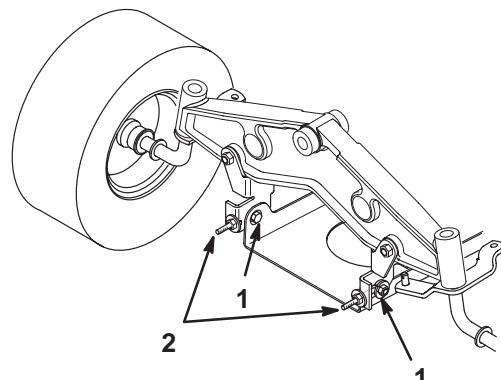

Figure 52
7. To adjust the front-to-rear blade slope, loosen the front pivot plate mounting bolts slightly (Fig. 52).
8. Rotate the locknuts on the eyebolts to change the adjustment (Fig. 52). To raise the front of the mower, tighten the eyebolt locknuts. To lower the front of the mower, loosen the eyebolt locknuts.
9. After adjusting both of the eyebolt locknuts evenly, check the front-to-rear slope again. Continue adjusting the eyebolts until the front blade tip is 0–3/8 in. (0–9 mm) lower than the rear blade tip (Fig. 52).
10. When the front-to-rear slope is correct, tighten the pivot plate mounting bolts (Fig. 52).